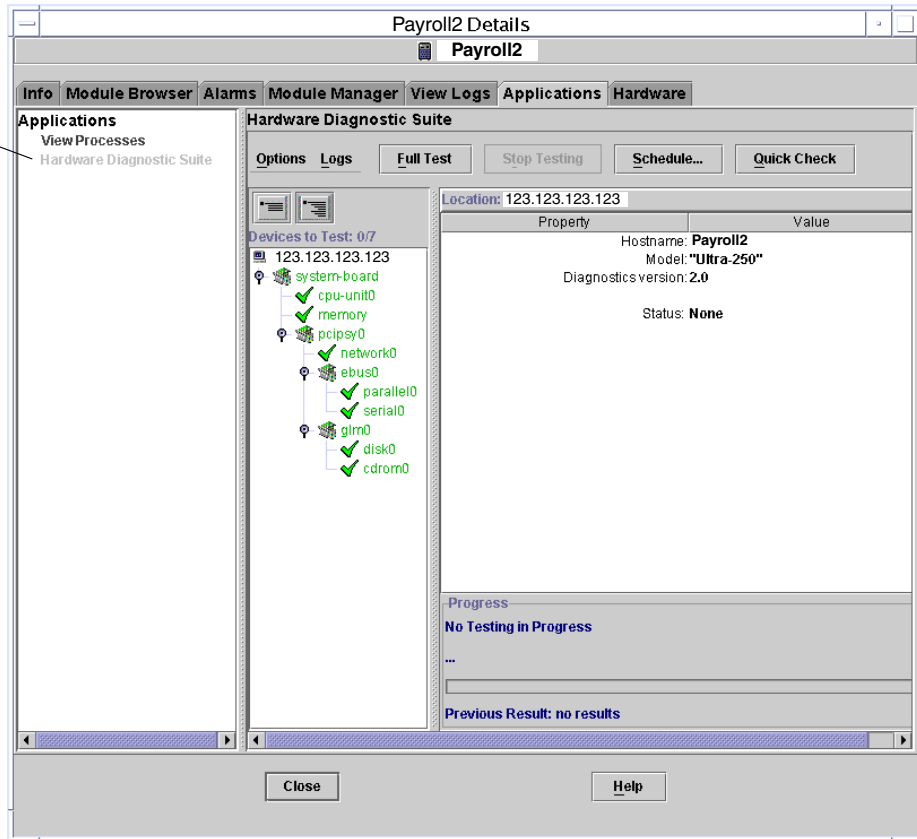

FIGURE 3-4 Hardware Diagnostic Suite Console Window
4. Click the **Hardware Diagnostic Suite** option from the list of Applications in the left panel (see FIGURE 3-4).